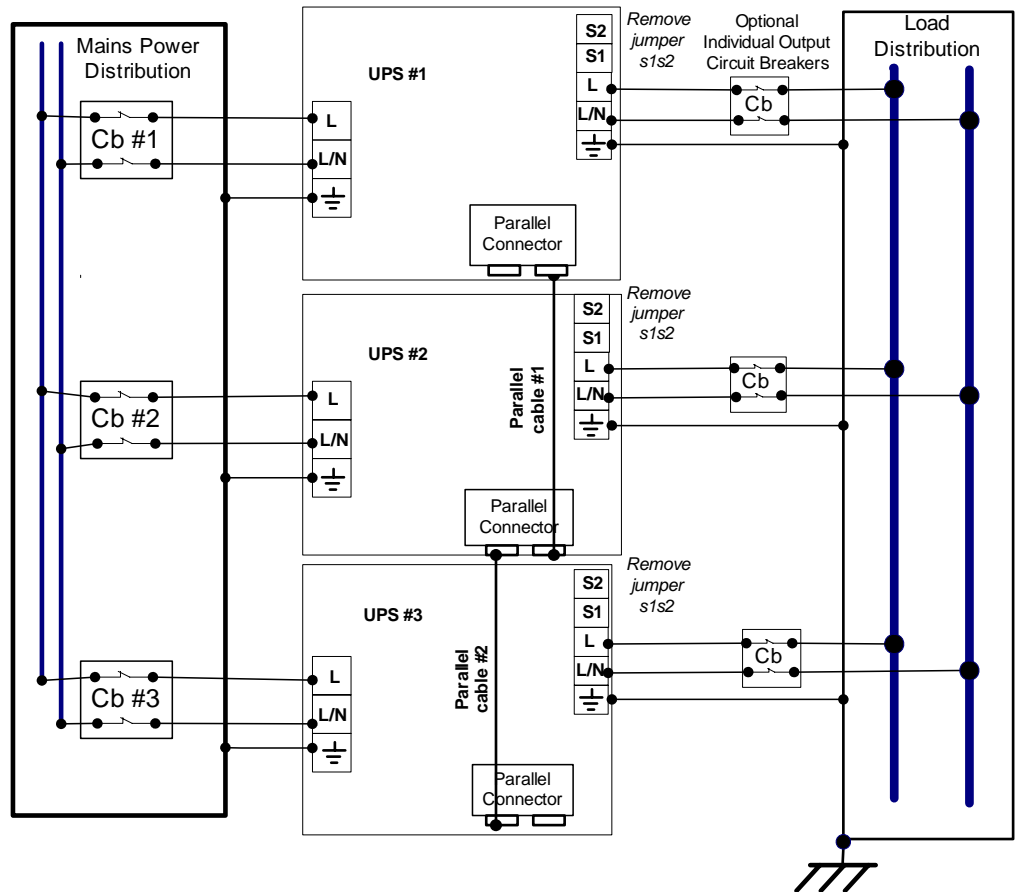

Fig. 12: Linear Plus Parallel Diagram
2. Connect the input terminals of all UPS blocks to the mains distribution. See Figure 12 on page 20.